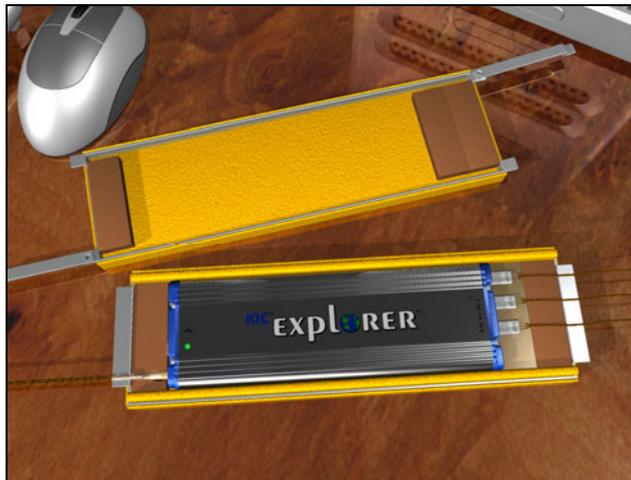

Figure 205: 12-Channel KIC Explorer with Thermal Shield
- The *KIC Explorer* antenna should extend fully, and exit from the back of the thermal shield. See Figure 205.